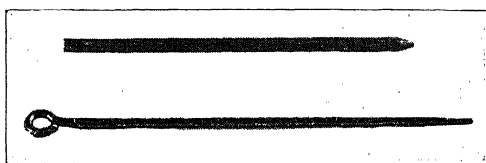

Fig. 155. Metering Rod
**Metering Rods.** The metering rod, which controls the amount of gasoline passing through the jet, can be changed to meet the various climatic, fuel, and driving conditions. These various sizes, which are listed below, are available through the parts warehouses and are marked as listed, Fig. 155. Production metering rods, which are the standard size, are not marked.